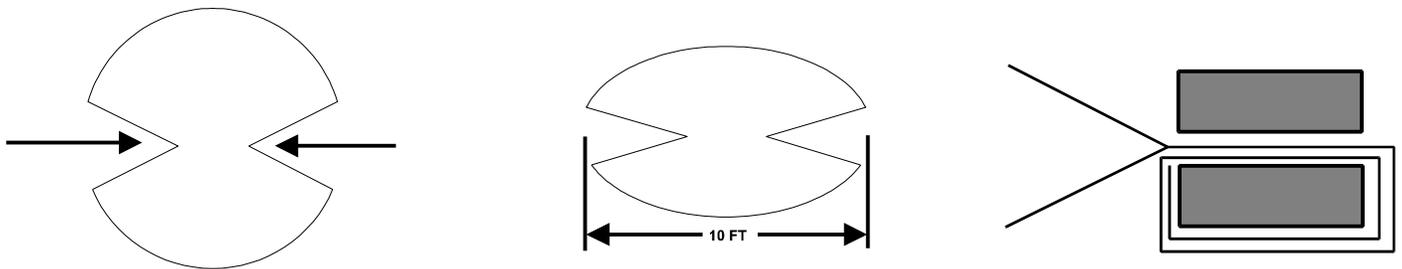

Figure 3
8. To close the bag, pull enough off of the shroud so that you can close off the one end. Pull a little more off of the bottom to start out. It is important not to allow wrinkles and to keep the bag fold lines straight. Take the opening of the bag and fold in both sides to form a pleat. Also requires the use of (2) 10' 2 x 4's. (Figure 3) Place the blank board on top and roll the bag around it four (4) times. Place the pre-nailed board on top to sandwich the plastic and nail them together.